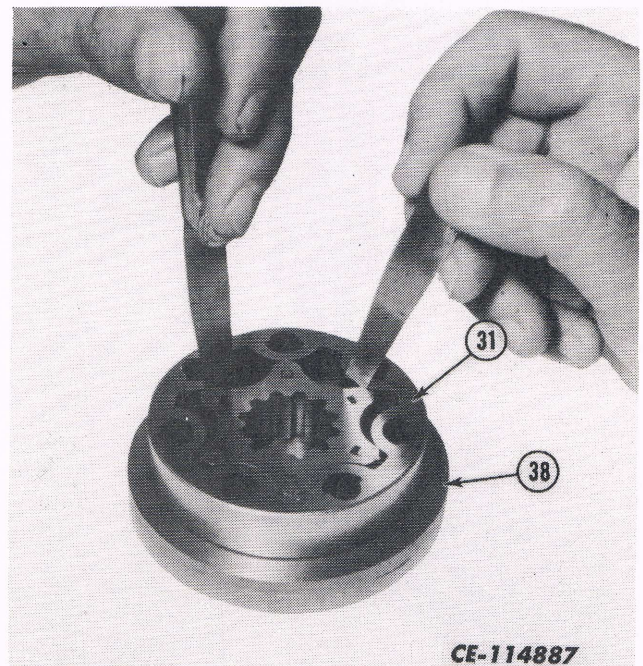

Fig. 14
Using a tapered blade feeler gauge, check the rotor (31B) to the stator (31A) clearance as shown in Fig. 14. If there is more than a .178 mm (.007 inch) clearance, the rotor set (31) must be replaced. See Figs. 5 and 14.